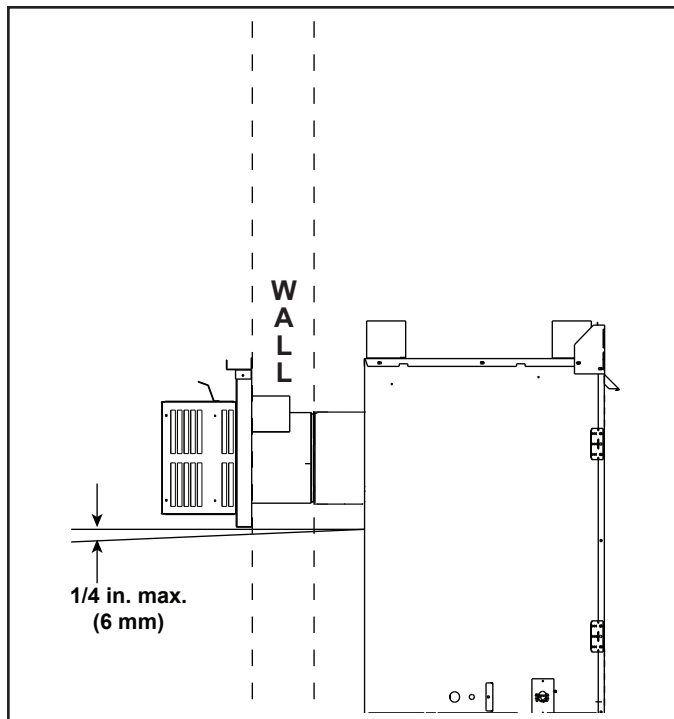

Figure 4.8 Vent Cap - Generic Fireplace Shown
- Horizontal termination cap should have a 1/4 in. (6 mm) downward slant to allow any moisture in cap to be released. See Figure 4.8.